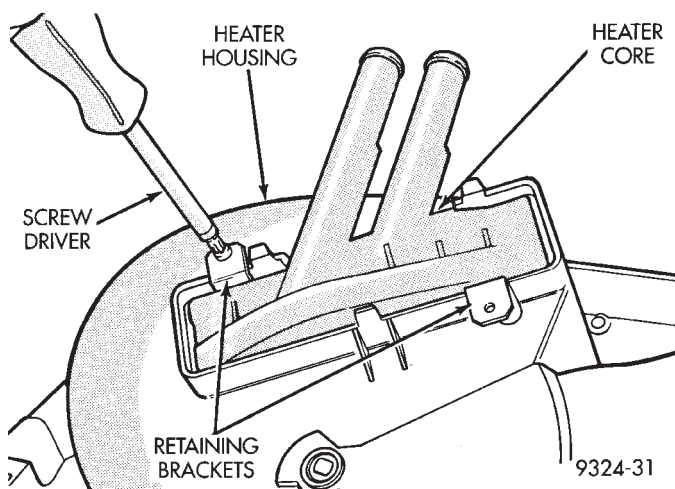

Fig. 4 Heater Core Retaining Bracket
- (1) Push new heater core into the heater housing.
- (2) Place retaining brackets over heater core and fasten with screws provided with new heater core (Fig. 4).